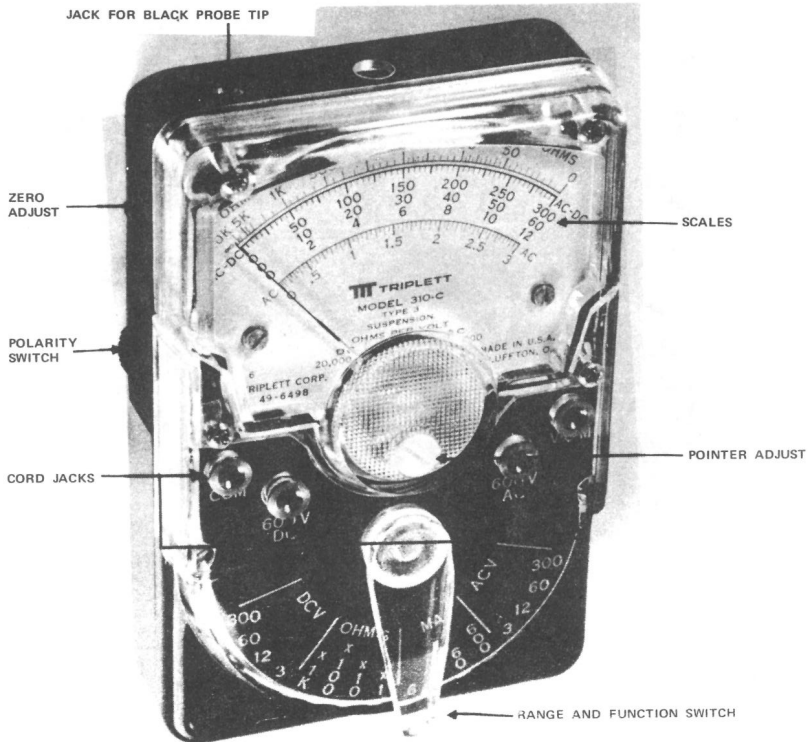

FIGURE 1. Triplet Model 310C V.O.M.
2.01 Figure 1 shows the operational features on the Triplet 310C V.O.M.